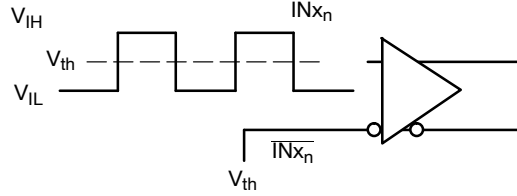

Figure 5. Differential Input Driven Single-Ended
## DIFFERENTIAL INPUT DRIVEN SINGLE-ENDED (Note 6) (Figures 5 and 6)
8. Differential 50% duty cycle at  $V_{INPPmin}$  clock source. Outputs evaluated with 50  $\Omega$  resistors to  $V_{TT} = V_{CC} - 2.0$  V (See Figure 16). Input crosspoint to output crosspoint for INxn/INxn to Qx, Qx; 50% input to output crosspoint for SELx to Qx, Qx. See Figures 5, 10 and 11.